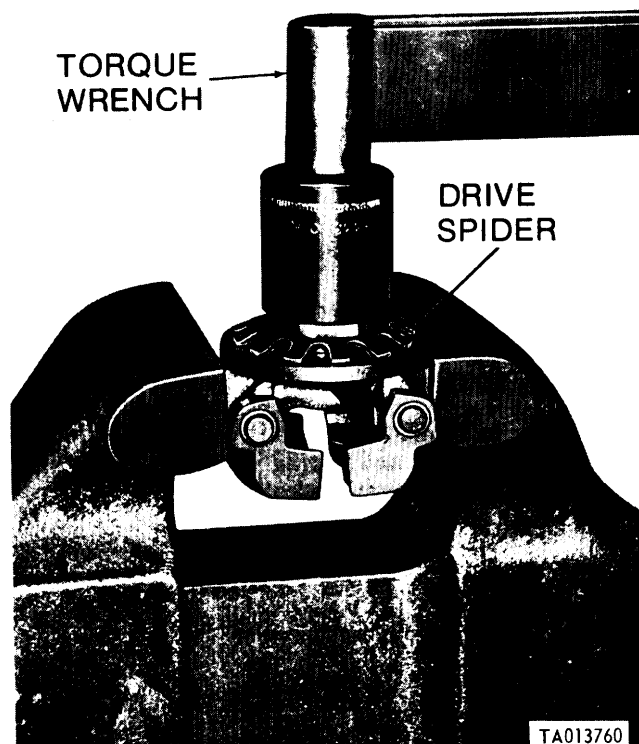

Figure 3-93. Checking friction drive spider slippage.
(3) Refer to figure 3-93. Install friction drive spider and governor weight assembly in vise equipped with soft metal jaws as shown. Lubricate the spring disk bearing surface with engine oil and take a running torque reading. Torque reading should be between 48 and 72 inch-pounds. If the torque reading falls below these limits, install a thinner spring disk spacer (E, fig. 3-91). If the torque reading exceeds these limits, replace the governor weight and spider assembly.